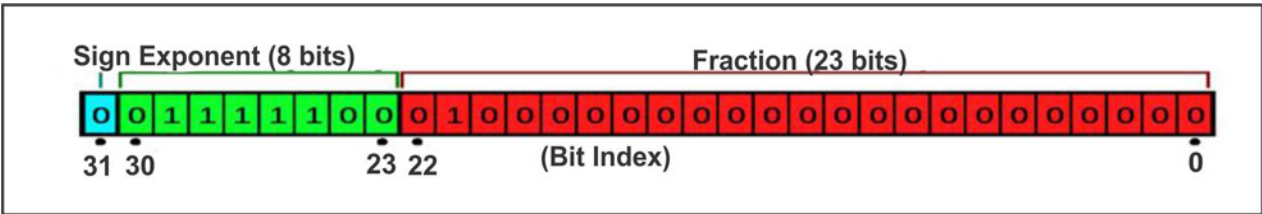

FIGURE 1. BIT FORMAT FOR IEEE 754
Use the method below calculate the value of single precision 32-bit float parameters. The architecture of number formatting used is IEEE 754 (see Figure 1).
- Total of 23 Fraction points can be included in the format of Figure 1